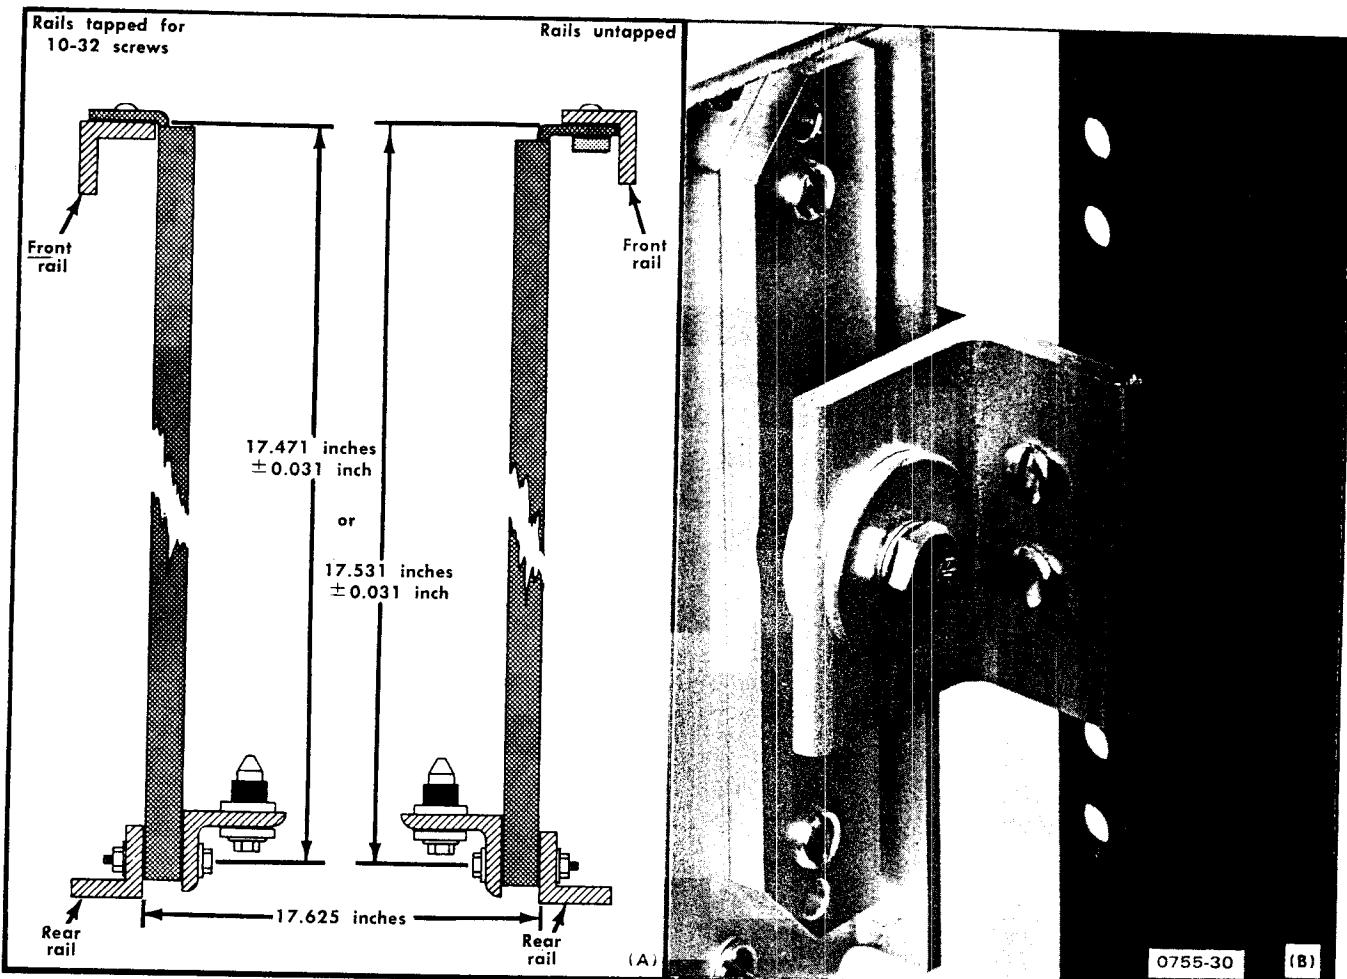

Fig. 4-11. Supporting the rear of the stationary sections: (A) Dimensions necessary; (B) Completed installation.
The mounting flanges of the stationary sections may be mounted in front of or behind the front rails of the rack depending on the type of rack. If the front rails of the rack are tapped for 10-32 screws, the mounting flanges are placed in front of the rails. If the front rails of the rack are not tapped for 10-32 screws, the mounting flanges are placed behind the front rail and a bar nut is used. Fig. 4-11 shows these methods of mounting the stationary sections.
The rear of the stationary sections must be firmly supported to provide a shock-mounted installation. This rear support must be located 17.471 inches,  $\pm 0.031$  inch, from the outside surface of the front rail when the mounting flange is mounted outside of the rail, or 17.531 inches,  $\pm 0.031$  inch, from the rear surface of the front rail when the mounting flange is mounted behind the front rail. If the cabinet rack does not have a strong supporting member located the correct distance from the front rail, an additional support must be added. The instrument will not meet the environmental specifications unless firmly supported at this point. Fig. 4-11 illustrates a typical rear installation using the rear support kit and gives the necessary dimensions.
1. Select the proper front-rail mounting holes for the stationary section using the measurements shown in Fig. 4-11.